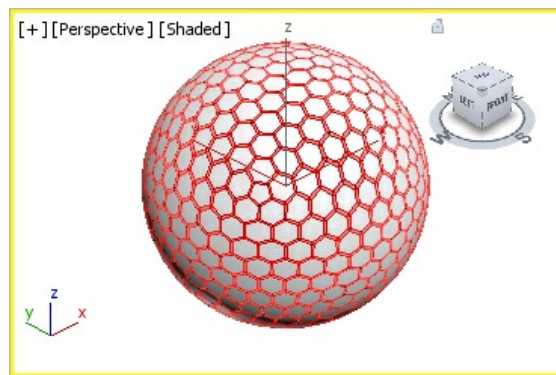

Figure 8-117 All polygons in golf ball, except new hexagonal polygons selected
9. Now, in the modifier stack, select the **Polygon** sub-object level; all the polygons of *golf ball* get selected except the new hexagonal polygons, as shown in Figure 8-117.